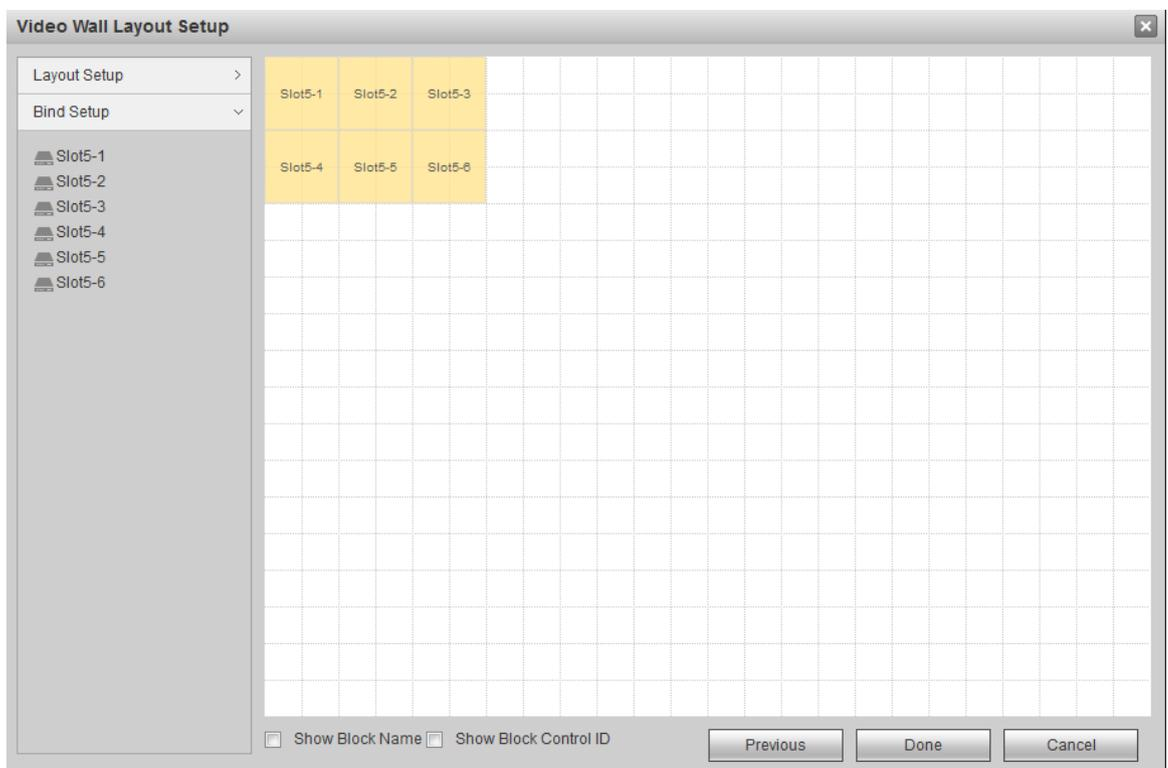

Figure 3-7
- Step 5 Hold the left mouse button, drag the slot into screen, so as to bind the slot channel with screen, as shown in Figure 3-7.